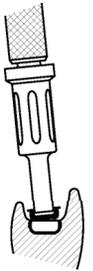

Fig. 6
8. Use the Locator Male Removal Tool (attached to the Locator Core Tool, Zest order No. 8393) to remove the Black Processing Replacement Male from the metal denture cap. The sharp circular edge on the end of the removal tool should be wedged tightly down into the very bottom of the Male so that it will catch the inside of the Male and pull it at an angle out of the metal housing. (Fig. 6) To discard the Male from the tip on the Core Tool, point the tool down and away from you and tighten the Male Removal Tool clockwise back onto the Core Tool. This will activate the removal pin and dislodge the Male from the tip end of the Male Removal Tool.